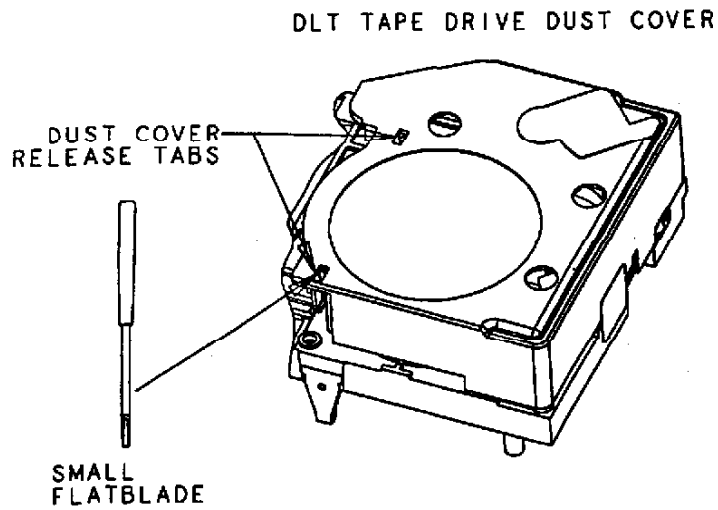

Figure 3 **DLT Tape Drive Dust Cover**
2. Locate the clear plastic dust cover over the take-up reel. Remove the warranty sticker, if applicable. Locate the two rectangular slots near the front of the plastic cover. Insert a small flat blade screwdriver into each slot, gently pry each tab, and lift the front of the cover. A third holding tab is located at the rear of the drive, which can be pried open with just the finger. See Figure 3.